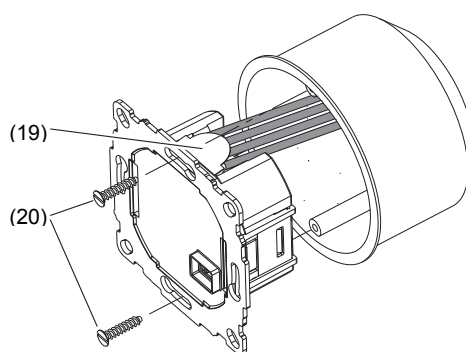

Figure 7: Mounting
- Align insert (7) in the connector socket and fix it into position with fastening screws (20). Mount the insert in such a way that the plastic tongue (19) acts as insulation for the fastening screw. (Figure 7)
- Mount the design frame (5) and fix it into position by attaching the operating unit (3).